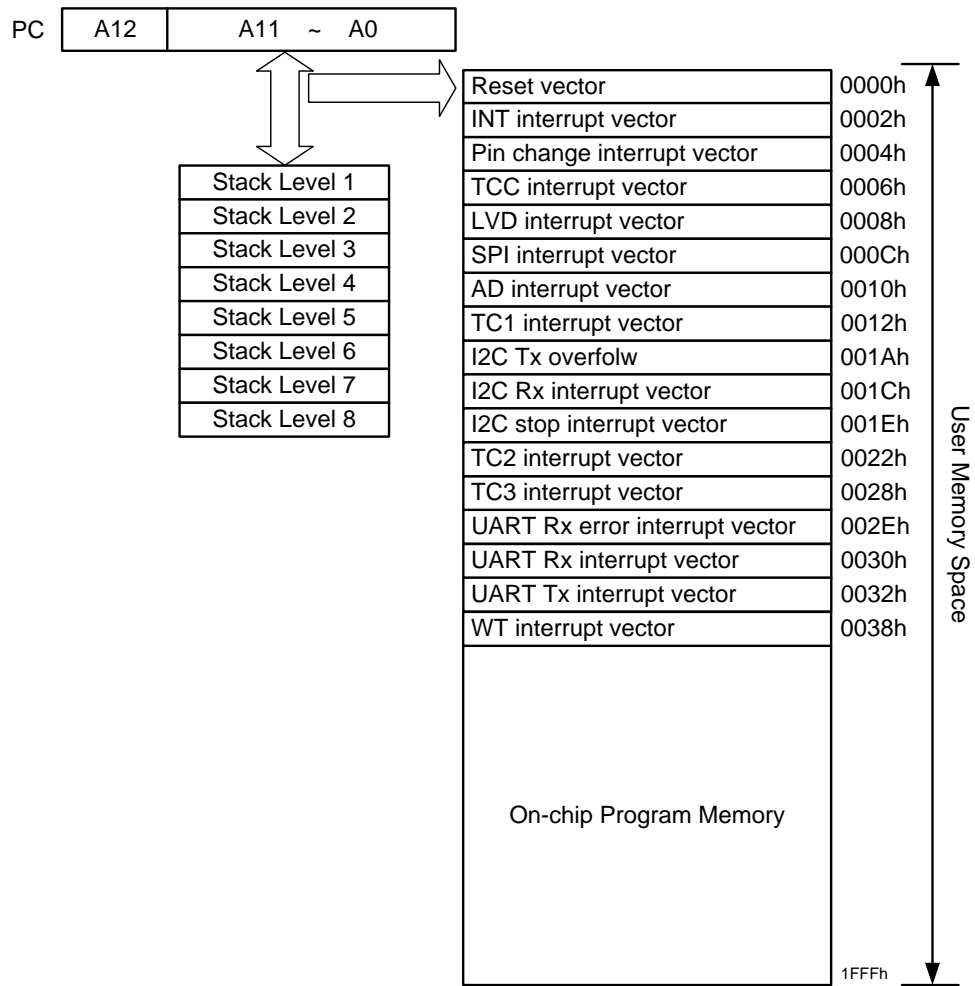

Figure 6-1 EM78P528N Program Counter Organization
- Depending on the device type, R2 and hardware stack are 13-bit wide. The structure is depicted in Figure 6-1.